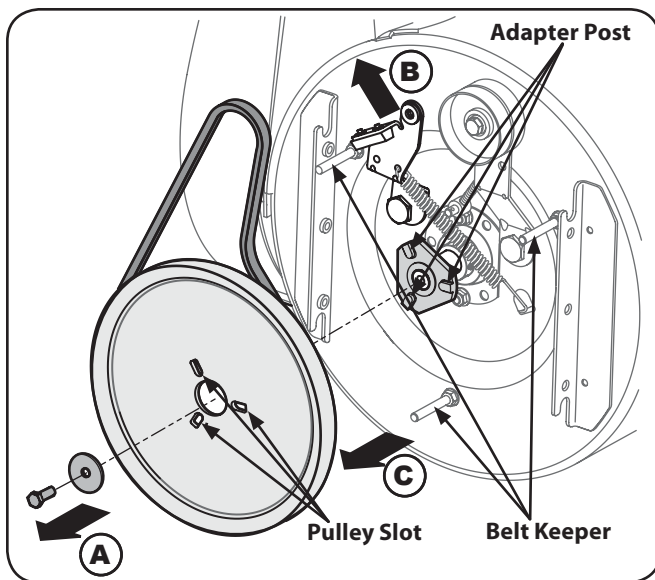

Figure 7-8
7. Turn the pulley as necessary to align its three slots approximately with the posts of the pulley adapter, then move the brake bracket assembly away from the input shaft. While aligning the pulley slots and adapter posts, push the auger pulley fully onto the adapter. Refer to Figure 7-8.
NOTE: If the pulley adapter was removed with the pulley, align the splines of the pulley adapter and auger input shaft, and push the pulley and adapter onto the input shaft. Refer to Fig. 7-8.